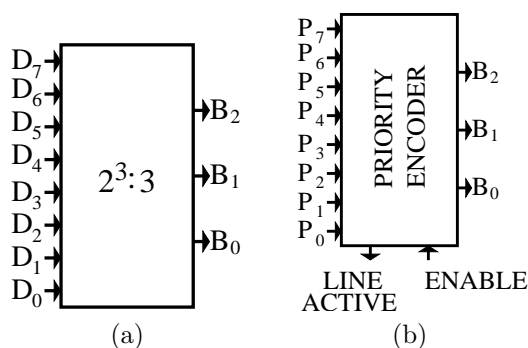

Figure 1: (a) The given Octal-to-Binary Chip, and (b) Input and Output lines for the desired Priority Encoder
1. **Priority Encoder** Given an Octal-to-Binary Encoder Chip with all input and output lines as shown in Figure 1(a). Using this chip, and only NOT, AND and OR gates, design an *Octal-to-Binary Priority Encoder*, whose required input and output lines are shown in Figure 1(b). Assume the